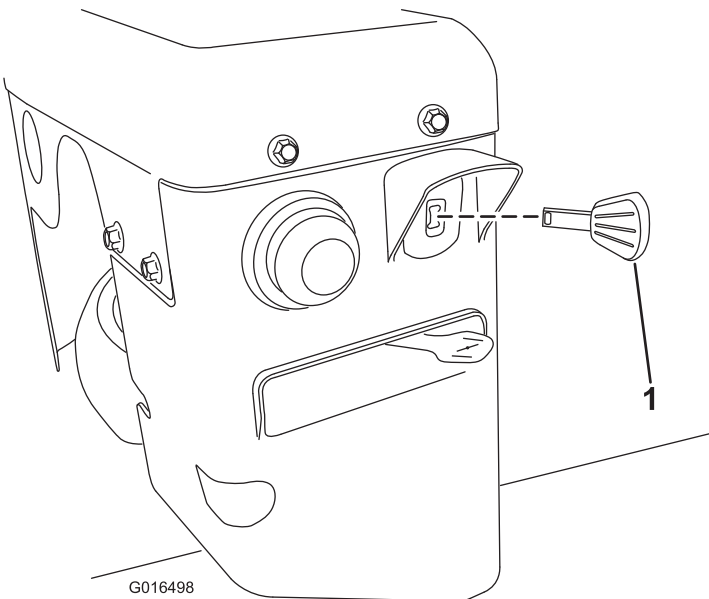

Figure 22
3. Insert the ignition key all the way in (Figure 22).